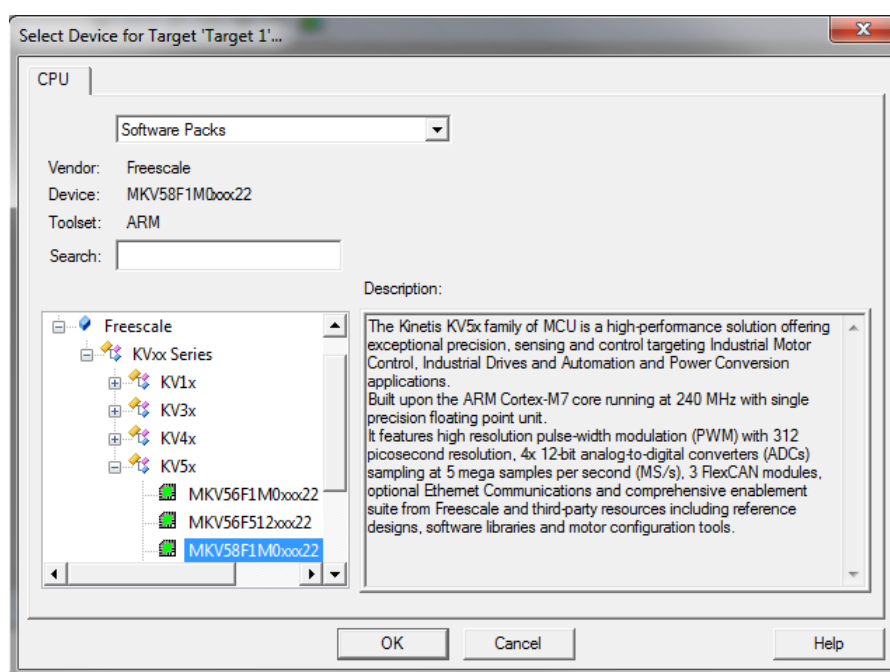

Figure 1-18. Select Device dialog
7. Click the MKV58F1M0xxx22 node, and then click OK. See Figure 1-18.